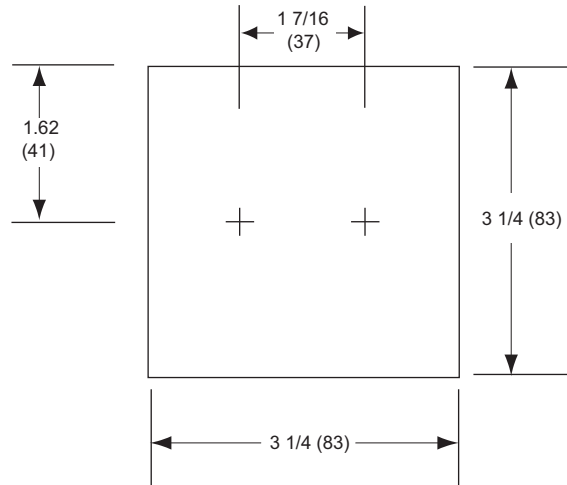

Figure-6 AM-705 Mounting Dimensions.
- Use two mounting screws (customer supplied) and appropriate drill to drill and mount the rear cover (Figure-6).